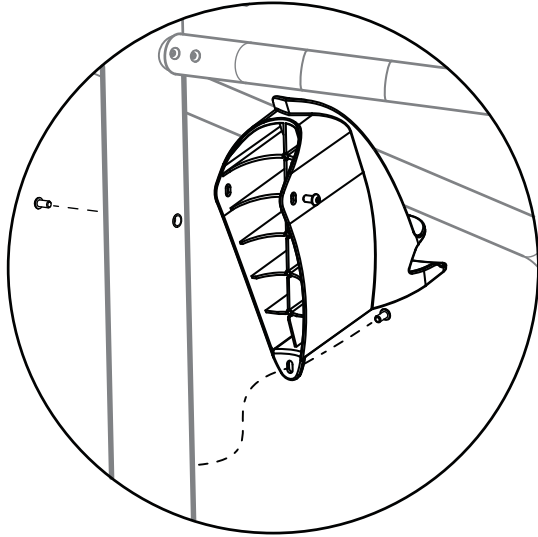

Figure 8
**8-1** Attach the Cup Holder to the Mast with 3 Button Head Screws (Figure 8).